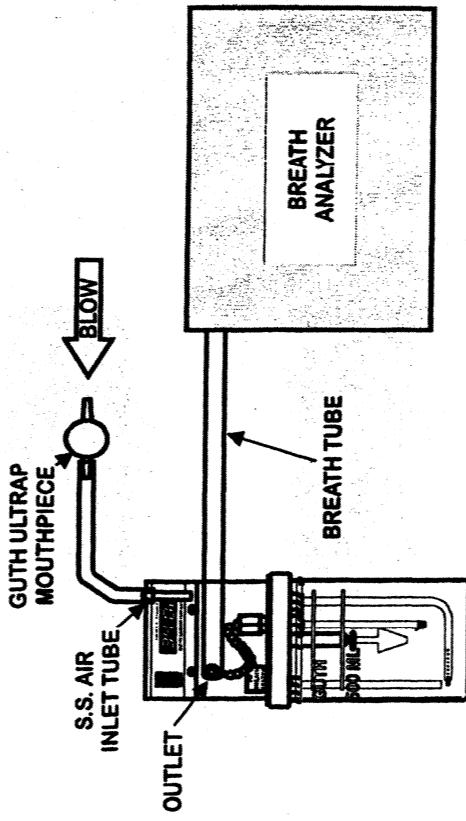

Figure 4.
11. The simulator is now ready for use. Attach Breath Tube to FRONT of the simulator marked "TO BREATH TESTER". (See figure 4):